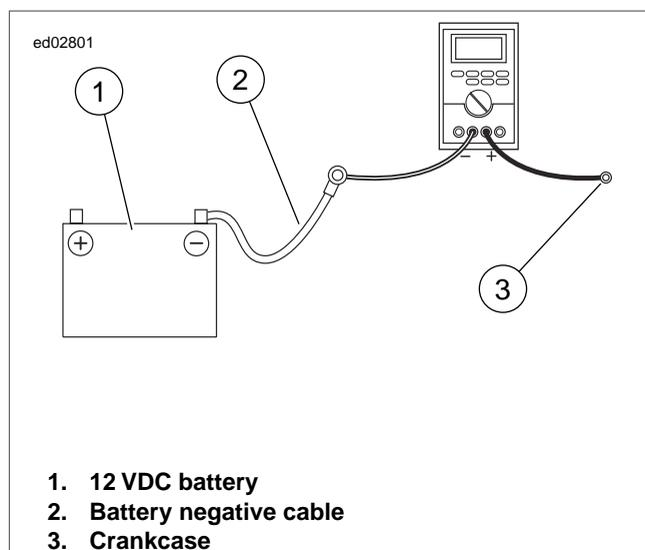

Figure 1-15. Milliampere Draw Test (Ignition turned to OFF)
1. See Figure 1-15. Connect ammeter between negative battery cable and crankcase. With this arrangement, you will also pick up any regulator drain.